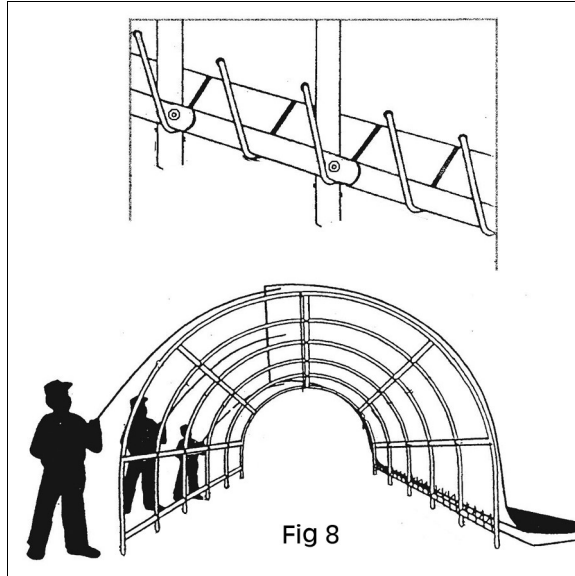

Fig 8
1. From the inside of the garage, place the anchors with Steel Cable (17) on all four corners. Place the remainder of the anchors on the inside of the bows at intervals. See Figure 8.
5. After placing all the anchors, wrap the wire cable from each anchor, around the Bottom Rails and securely attach it to itself using clamps (25) (not shown). See Figure 8.